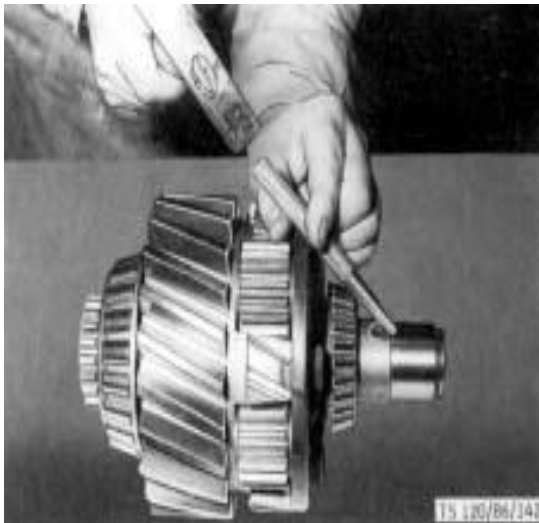

Fig. 5-22
- 8. Refer to Fig. 5-13, when removing the inner race 20 of needle bearing from the coupling 8 of planet carrier, first slightly tap out part 20, then use the puller (part 2 in Fig. 5-22) and special tool (part 3 in Fig. 5-22).
- 9. Refer to Fig. 5-13 and Fig. 5-22, when removing the inner race of conical roller bearing 19 from the coupling 8 of planet carrier, use the puller.